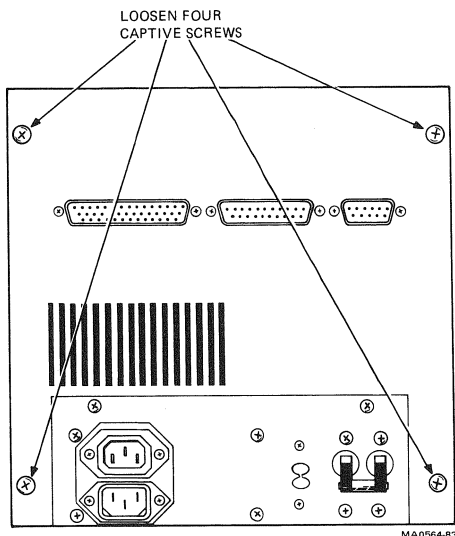

Figure 4-2 Removing the Tabletop Cover/Bezel Assembly
2. At rear of drive, release four captive phillips head screws that secure cover to rear bezel (Figure 4-2).
4. Screw in four captive screws to secure cover to rear bezel (Figure 4-2).